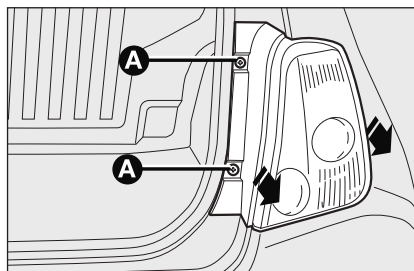

fig. 26
- ☐ unscrew the two fastening screws **A-fig. 26** and extract the light cluster axially without rotating it;